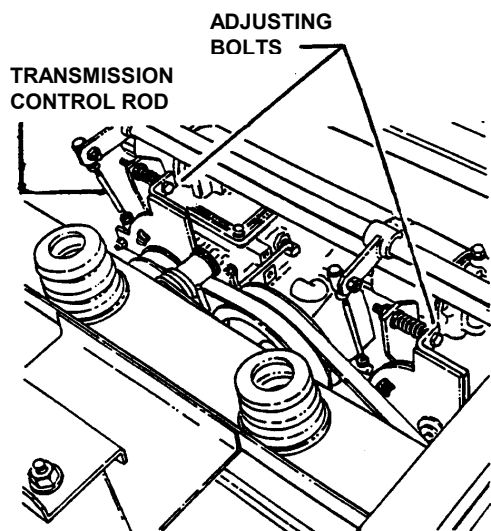

FIGURE 5.1
7. If wheel(s) are rotating, disconnect transmission control rods from cross shaft and turn adjusting bolts located on pump(s) clockwise, or counter-clockwise, until wheel(s) stop rotating. See Figures 5.1 and 5.1A.